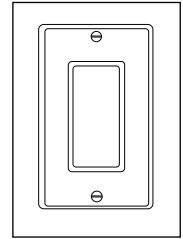

Figure 1
2. Wall switch light memory: (Figure 1)
- Your new ceiling fan will require a grounded electrical supply line of AC110~130V/60Hz15 Amp Circuit. Electrical code requires use of a fan-rated outlet box to support the extra weight and motion associated with a ceiling fan. A fan-rated box will be labeled as such and typically supports up to a 70lbs ceiling fan. Fan-Rated Outlet Boxes vary in rating and design. Ensure the ratings of your ceiling fan outlet box meet the requirements for the ceiling fan being installed. Figure 1, Figure 2 and Figure 3 depicts different structural configurations that may be used for mounting the outlet box.
- Low-profile use (Figure 1):